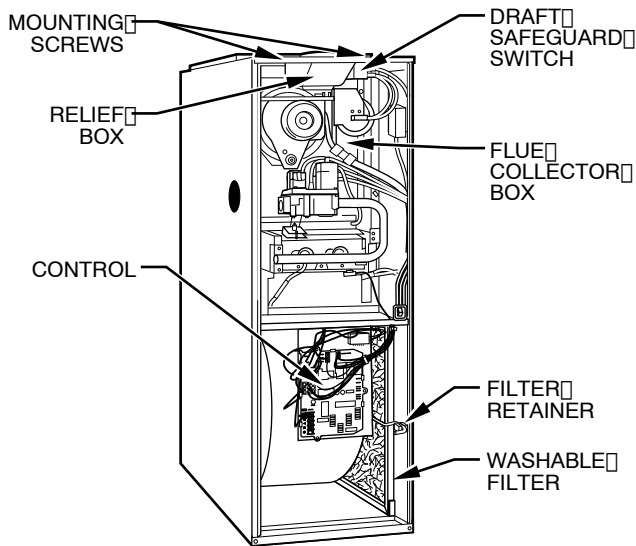

Fig. 6—Model GB1AAV Upflow
Each furnace requires 1 or 2 filters which are installed in the blower compartment. (See Fig. 6.) To remove filters for cleaning or replacement, proceed as follows.
- Release filter retainer from clip at front of furnace casing. (See Fig. 6.) For side return, clips may be used on either or both sides of the furnace.
- Remove electrical leads from numbered side of blower speed selector. (See Fig. 6 or 7.) Note location of wires for reassembly.
4. Remove 2 screws that secure relief box. (See Fig. 6 or 7.)